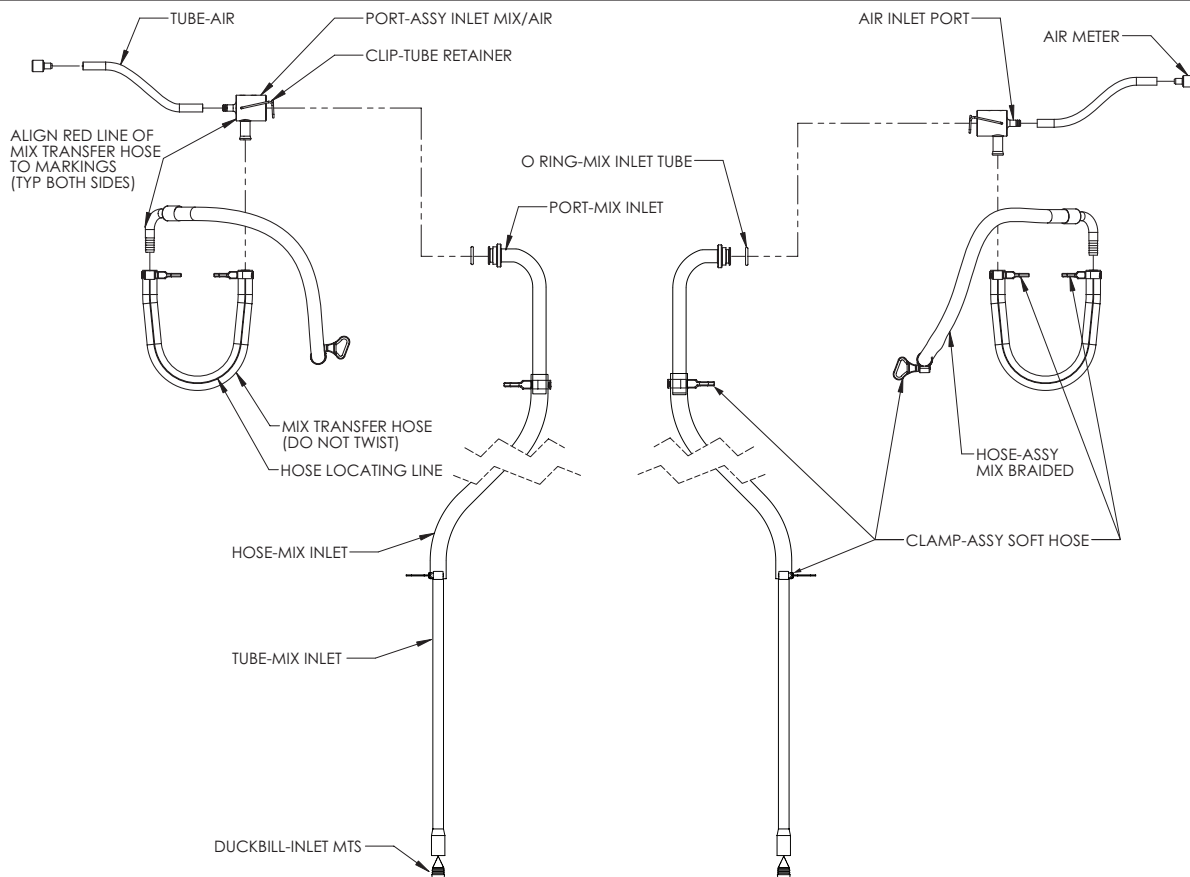

Figure 8-5 MTS Hose Assembly
12. Assemble the MTS hose assembly as shown in figures 8-5. The transfer hose has a red locating line. Hold the mix/air inlet port with the transfer hose mix port on your right and the barbed air port facing away from you. With the locating line up, slide the mix transfer hose onto the port. Then slide a clamp over the hose to secure it to the port. Finger tighten only! The
13. Slide another clamp over the mix transfer hose and connect to the barbed end of the braided hose. Tighten the clamp. Finger tighten only! The thumb screw must lay horizontal as shown in figure 8-5.